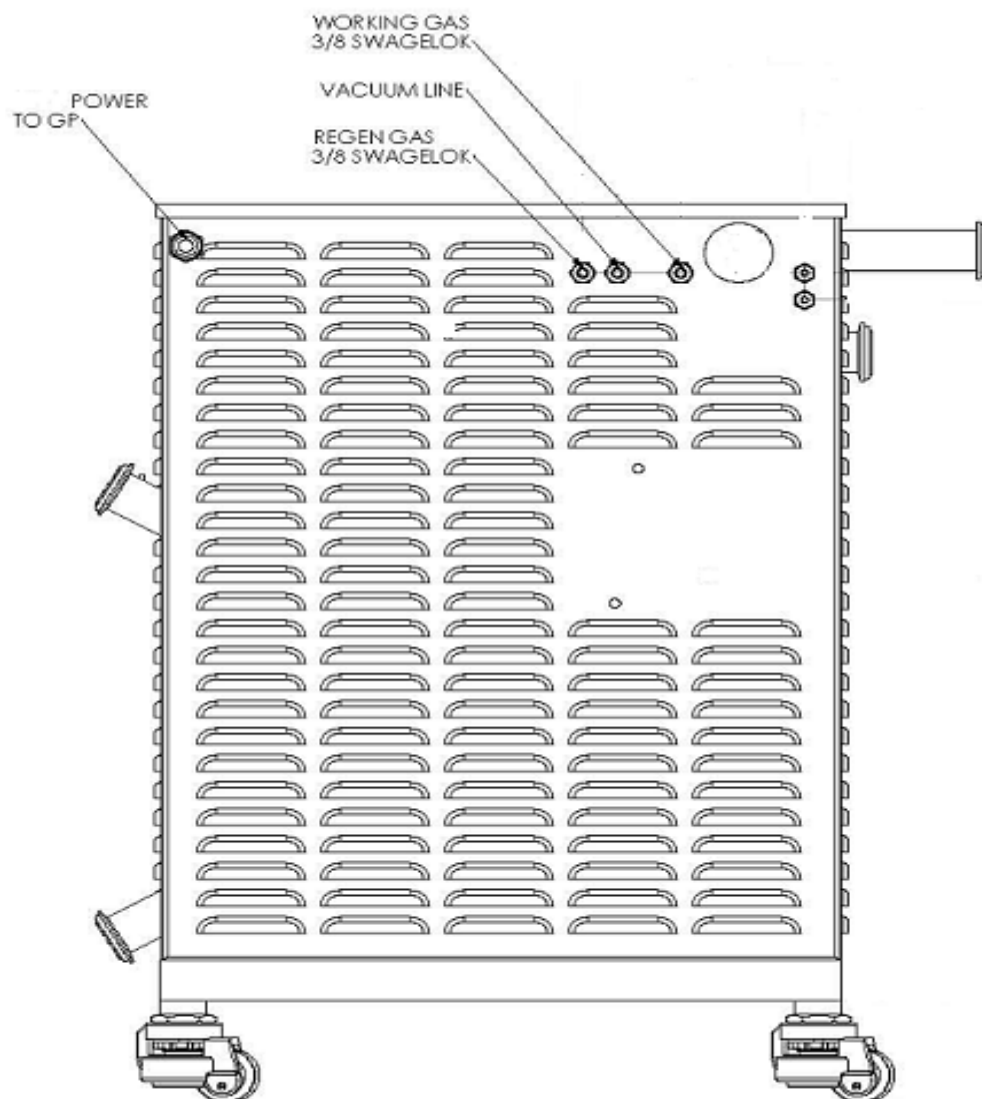

Figure 1 GloveBox
The GloveBox (Figure 1) is designed to be a completely modular system. The gas purification system is contained within a separate module that is located beneath the large Antechamber. This module has casters allowing easy movement for servicing.
- 1 See Glovebox layout drawing (Figure 1).